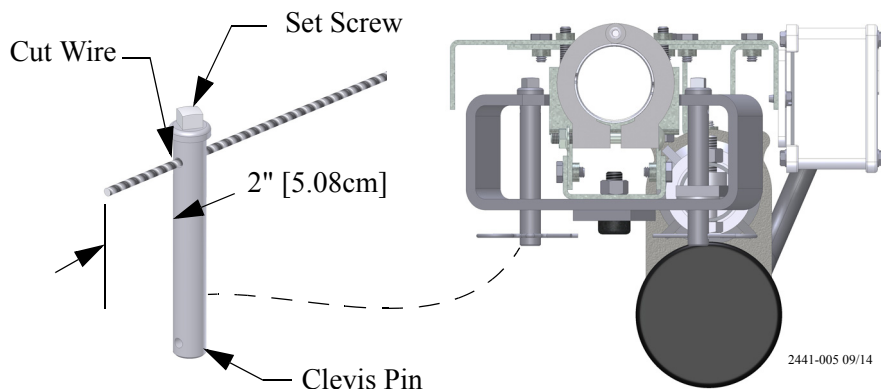

**Figure 59. Installing actuator wire**
1. Beginning at the terminal spring bracket or if a pusher pan is used start at that spring bracket. Slide the end of the actuator wire through the two holes in the bracket and through the center of the end spring, **see figure 59**